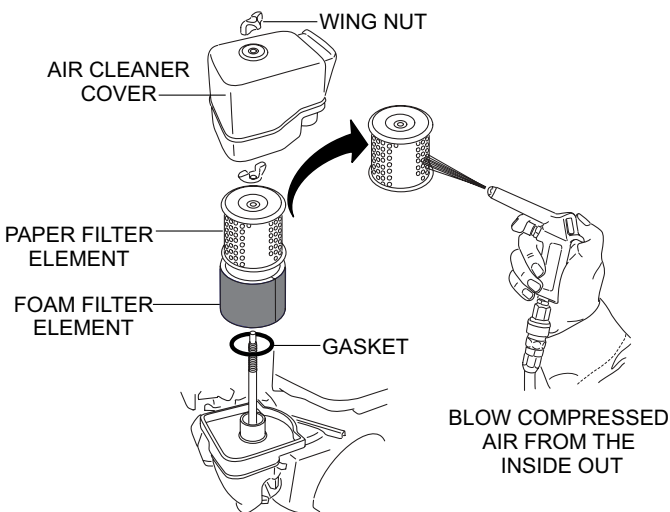
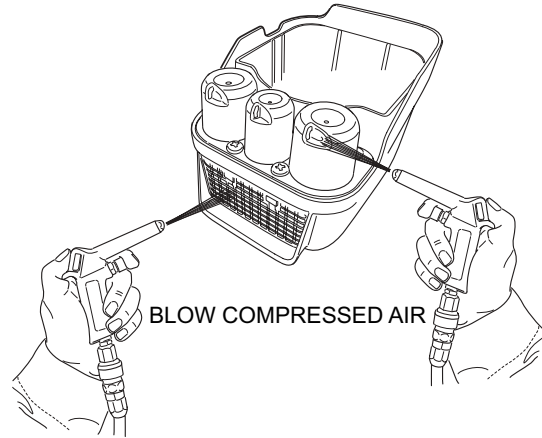

Figure 26. Engine Air Filter
Figure 27. Engine Air Filter Cover
The Honda GX200UT2SCM engine is equipped with a replaceable, high-density paper air cleaner element. See (Figure 26) for air cleaner components.
2. Blow compressed air (Figure 27) through the air cleaner cover as shown in (Figure 26). Clean inside of air filter cover with warm, soapy water or nonflammable solvent. Rinse and dry thoroughly.